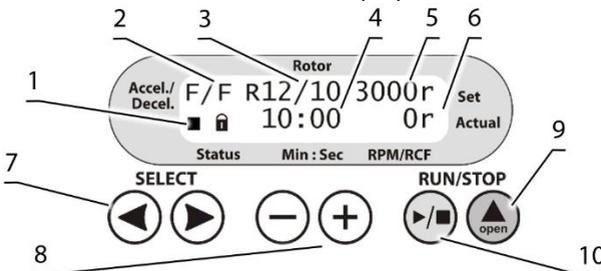

Figure 5. LMC-3000 control panel
- Check the power cord for any signs of damage. Connect the power cord to a properly grounded mains socket. Set the power switch on the unit to position **I** (on). Press the **▲ Open** key (fig. 5/9 or 6/11) and lift the lid by hand.
- Acceleration and deceleration modes (fig. 5/2 or 6/2);
- Rotor selection (fig. 5/1 or 6/1);
- Set rotor speed in RPM or RCF¹ (fig. 5/6 or 6/6);
- Status icons of rotor, ■ stopped or ► running (fig. 5/1 or 6/1, first symbol);
- Status icons of lid, ▣ closed or ▤ open (fig. 5/1 or 6/1, second symbol);
- Set time of centrifugation, in minutes and seconds (fig. 5/4 or 6/4);
- Actual rotor speed, in RPM or RCF (fig. 5/6 or 6/6);
- 5.4 Press the ▲ **Open** key (fig. 5/9 or 6/11) and lift the lid by hand. Check the rotor and buckets for any signs of wear or corrosion and replace if necessary. Insert EVEN number of tubes/microtest plates in rotor one opposite another. The loading in the opposite tubes must be equal.
- 5.5 **Setting parameters.** Use the **SELECT** ◀ and ▶ keys (fig. 5/7 or 6/10) to choose a parameter and the – and + keys (fig. 5/8 or 6/9) to modify it. Selected parameter will be blinking. Program automatically saves any changes made after no keys are pressed for 2 seconds.
- 5.5.1 Acceleration modes (fig. 5/2 or 6/2, first letter). Three modes of acceleration are available, slow (shortened to **S**), normal (**N**) and fast (**F**).
- 5.5.2 Deceleration modes (fig. 5/2 or 6/2, second letter). Four modes of deceleration are available, free brake (**0**), slow (**S**), normal (**N**) and fast (**F**).
5.5.3 Installed rotor (fig. 5/3 or 6/3). Select the rotor that is currently installed in the centrifuge. Combinations of rotors, adapters and their maximum allowed speed is listed below:
5.5.4 Rotation parameters (fig. 5/5 or 6/5). Rotor speed can be set in RPM and in RCF, denoted after numeric value by **r** and **g**, accordingly. Values convert after changing units. RCF depends on selected rotor or adapters, as shown in **5.5.3**.
5.5.6 Time setting (fig. 5/4 or 6/4). Select duration of centrifugation in minutes, step 1 minute.
5.6 Close the lid carefully and smoothly until a clicking sound is heard. Icon  appears on the display (fig. 5/1 or 6/1).
5.7 Press the **RUN/STOP** / key (fig. 5/10 or 6/12) to start centrifugation. Icon  (fig. 5/1 or 6/1) and actual speed (fig. 5/6 or 6/6) are shown in the lower line of the display. The timer (fig. 5/4 or 6/4) starts the countdown after set speed is achieved.